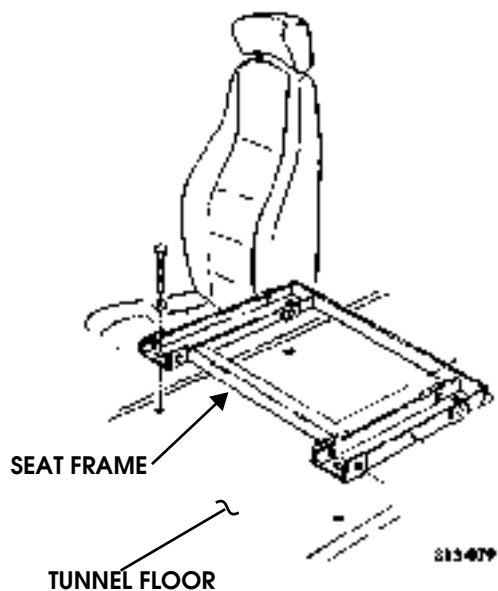

Figure 13-61: Auxiliary Seat Frame
3. Remove four bolts, washers, and auxiliary seat frame from tunnel floor (Figure 13-61).
1. Install auxiliary seat frame on tunnel floor with four washers and bolts (Figure 13-61). Torque bolts to 27-30 lb-ft (36-40 N•m).